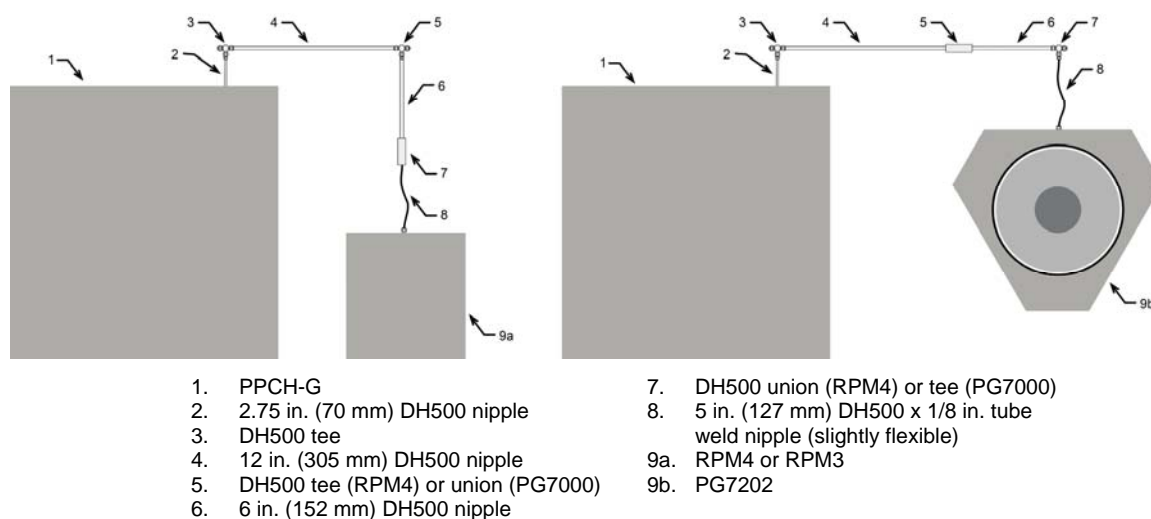

Figure 3. Connecting PPCH-G to an RPM4 or PG7202 using the standard PPCH-G interconnection accessories
- ① Using tubing of appropriate pressure rating and a tee fitting, connect the RPM4 Q-RPT **TEST(+)** port to the PPCH-G **TEST** port (see Figure 3 for instructions on making this connection using the standard interconnection accessories supplied with the PPCH-G). The third leg of the tee is for the connection to the device or system under test.
- ❶ Using tubing of appropriate pressure rating and a tee fitting, connect the PG7202 **TEST** port to the PPCH-G **TEST** port (see Figure 3 for instructions on making this connection using the standard interconnections accessories supplied with the PPCH-G). The third leg of the tee is for the connection to the device or system under test.
- ❷ Using a standard pin-to-pin DB-9M to DB-9F RS232 cable, connect COM1 of the PPCH-G to COM3 of the PG7202.
- ❸ See the PG7000 Operation and Maintenance Manual for information on operating the PG7202 with an automated pressure controlling device.